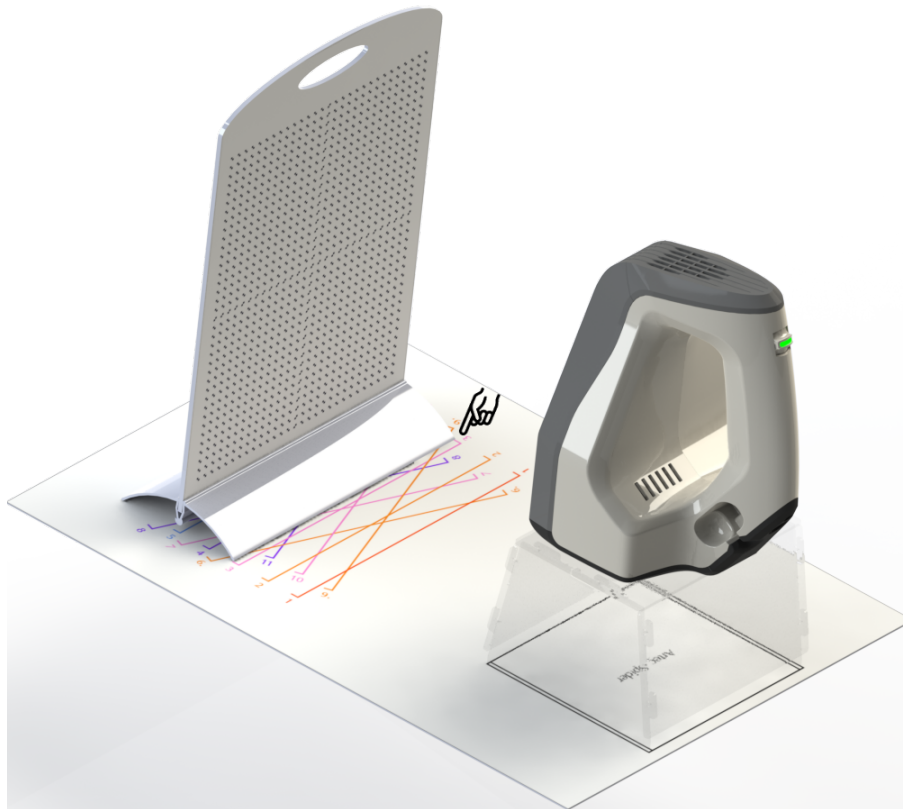

Figure 236: Calibration rig, positioning sheet and scanner stand with Artec Spider.
4. Set the calibration rig on the positioning sheet, turning its marker side towards the scanner as Figure 236 shows.